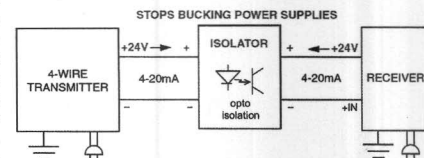

**Figure 12.** A signal splitter takes one signal input and provides two or more identical outputs proportional to the input.
A signal splitter is a 4-wire signal isolator/converter that takes one signal input and provides two or more identical outputs proportional to the input. All inputs and outputs, and power, are isolated from one another. In Figure 12, the transmitter is provided a 24V power supply, called "Transmitter Excitation" (TX), by the splitter. The advantage of the splitter (versus Area Isolation) approach is that you can disconnect either control system for maintenance without affecting the signal going to the other system. Some of the popular splitter applications (other than area isolation) include custody transfer and isolating validated systems from non-
Transmitter Excitation—It is often convenient, and cost-effective, to power a 2-wire transmitter from a 4-wire signal isolator/converter installed on the loop (Figure 12). Called "Transmitter Excitation" (TX), the isolator/converter provides 24V power supply which eliminates the need to install an additional instrument power supply.